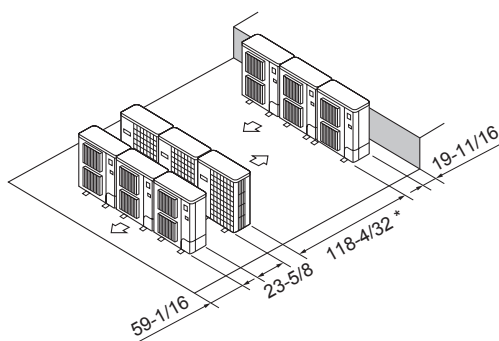

Fig. 2-17
⑥ Multiple parallel unit arrangement (Fig. 2-17)